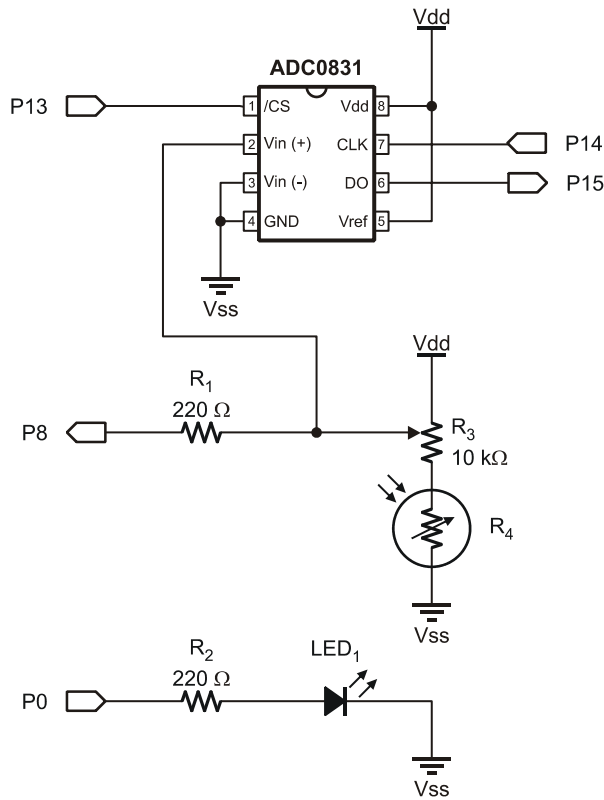
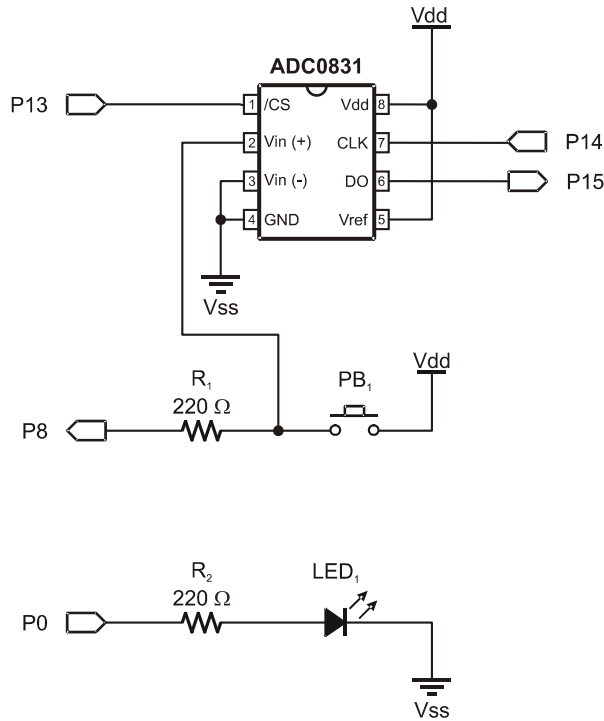

Figure 3-4
Figure 3-6
(1) Photoresistor
- √ Modify the circuit as shown in Figure 3-4 by adding the photoresistor between the potentiometer and Vss. Do not modify the ADC or LED portions of the circuit.
- (1) LED – Red
- √ Replace the photoresistor circuit Figure 3-4 with the pushbutton circuit as shown in Figure 3-6.